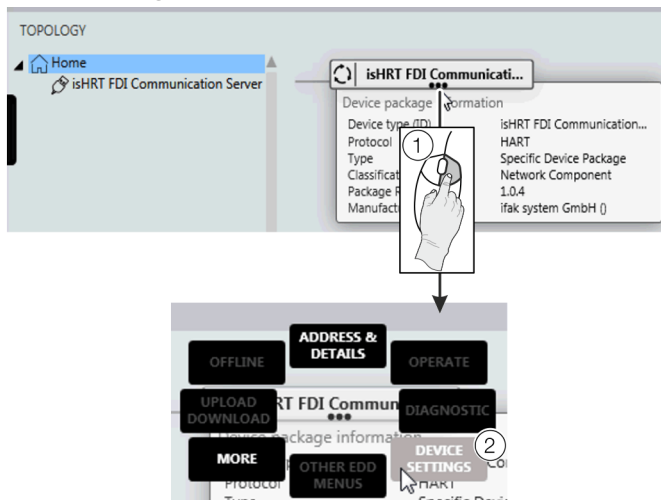

Figure 31: Select FIM – 'Device Settings'
6. Right-click ① as shown in Figure 31.
7. Select 'DEVICE SETTINGS' ② as shown in Figure 31.